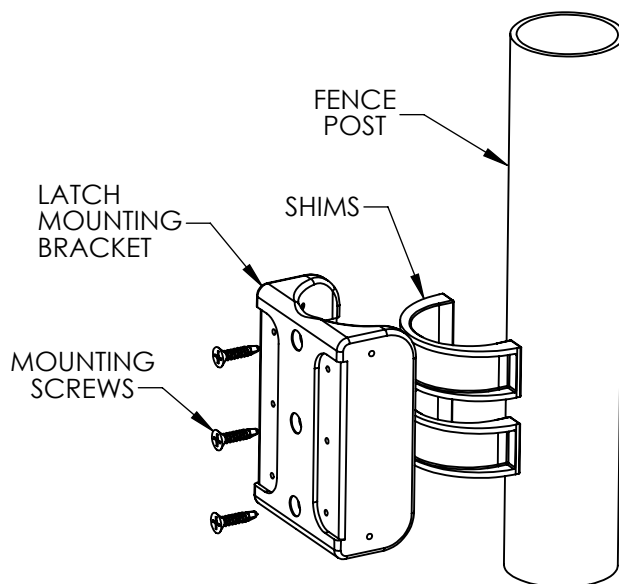

Fig. 1
STEP 1 - Installing the Latch Mounting Bracket (Fig. 1)